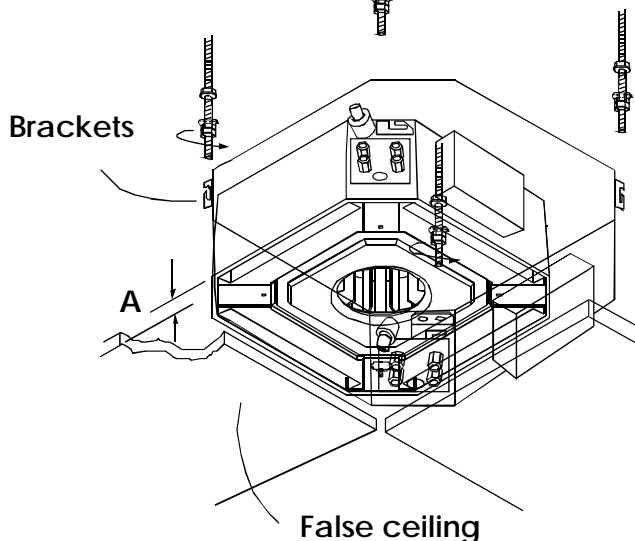
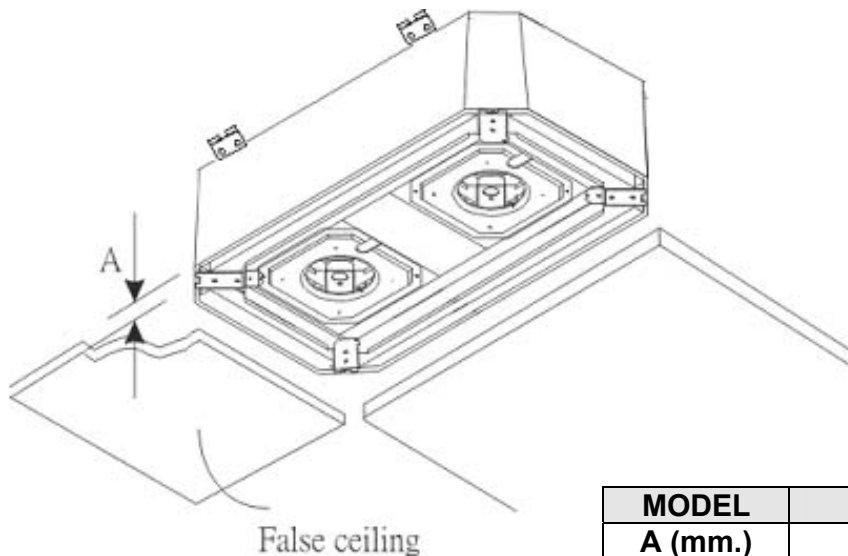

Fig.12
Fig. 15
10. Using a level guide, line up the unit with a spirit level, and keep dimension between the body and the lower part of the false ceiling (Fig.12 Fig.15).